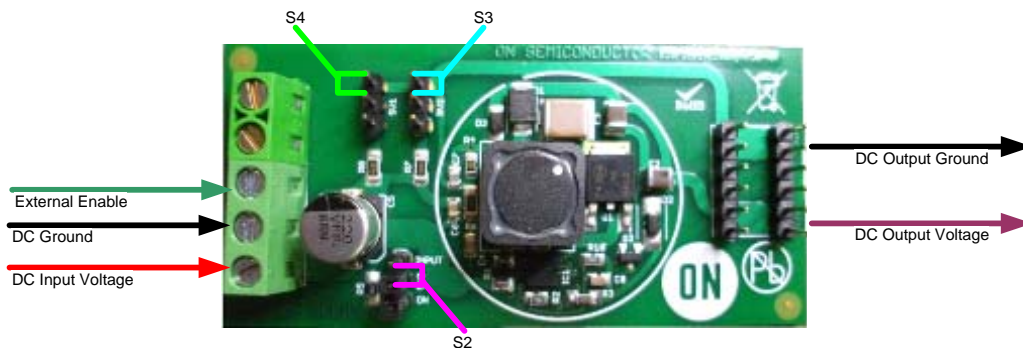

Figure 3: NCP3066 SEPIC DC Input with External Enable Setup
2. Place a removable jumper as shown in Figure 3 as S2 to allow an external enable through the provided pin.